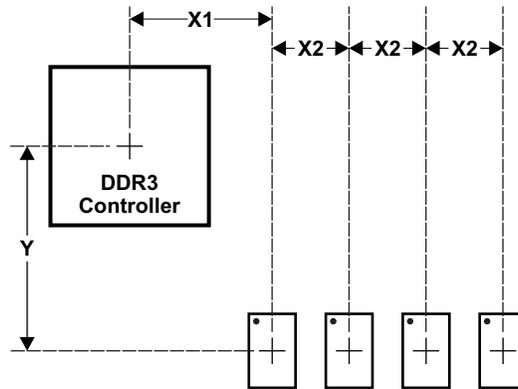
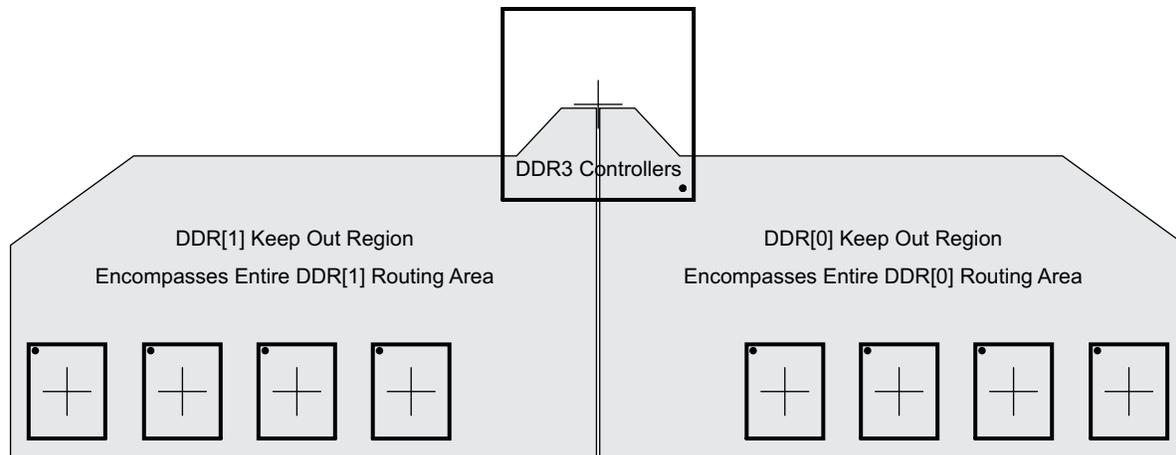

Figure 8-56. Placement Specifications
Figure 8-57. DDR3 Keepout Region
Figure 8-56 shows the required placement for the processor as well as the DDR3 devices. The dimensions for this figure are defined in Table 8-68. The placement does not restrict the side of the PCB on which the devices are mounted. The ultimate purpose of the placement is to limit the maximum trace lengths and allow for proper routing space. For a 16-bit DDR memory system, the high-word DDR3 device(s) are omitted from the placement.
- (1) For dimension definitions, see Figure 8-56.
- (2) Measurements from center of processor to center of DDR3 device.
- (3) Minimizing X1 and Y improves timing margins.
- (4) w is defined as the signal trace width.
- (5) Non-DDR3 signals allowed within DDR3 keepout region provided they are separated from DDR3 routing layers by a ground plane.
- (6) If a device has more than one DDR controller, the signals from the other controller(s) are considered non-DDR3 and should be separated by this specification.
The region of the PCB used for DDR3 circuitry must be isolated from other signals. The DDR3 keepout region is defined for this purpose and is shown in Figure 8-57. The size of this region varies with the placement and DDR routing. Additional clearances required for the keepout region are shown in Table 8-68. Non-DDR3 signals should not be routed on the DDR signal layers within the DDR3 keepout region. Non-DDR3 signals may be routed in the region, provided they are routed on layers separated from the DDR signal layers by a ground layer. No breaks should be allowed in the reference ground layers in this region. In addition, the 1.5-V DDR3 power plane should cover the entire keepout region. Also note that if there is more than one DDR controller, the signals from each controller need to be separated from each other by the specification in Table 8-68, item 5. Each DDR controller should have its own DDR keepout region.
Figure 8-57 is an example of a processor with two DDR controllers. Processors with a single DDR controller will have only one DDR keepout region. Each DDR controller should have its own keepout region.